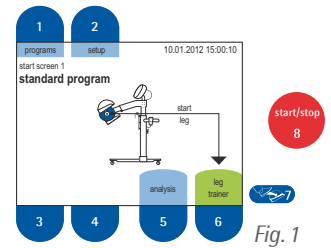
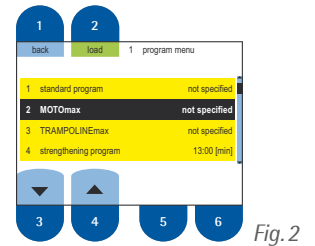
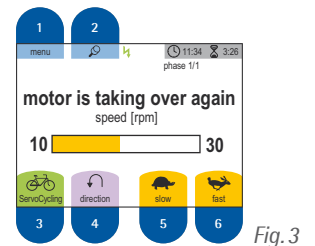
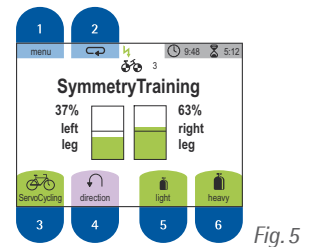

Fig. 1
Fig. 2
Fig. 3
Fig. 5
At first, the start screen (fig. 1) comes up. Start your training by pushing the button ⑥ "leg trainer". The foot shells will start moving automatically. In order to set a training time push the button ① "menu" (fig. 3–7). Push the buttons ③/④ (▼/▲) to select line 2 "duration" and use the buttons ⑤/⑥ (←/→) to set the desired training time (not shown). To return to your training screen push button ① "back".
6b Select and initialize a preset TherapyProgram: From the start screen, (fig. 1) push button ① "programs". Once you have accessed this menu, (fig. 2) use buttons ③/④ (▼/▲) to mark the desired program and push button ② to "load" it. You will be transferred automatically to the start screen (fig. 1), where your selected program will be indicated. Start your training by pushing the button ⑥ "leg trainer".
7 Motor-assisted (passive) movement/change of direction: By pushing button ⑤ "slow" (🐢) or button ⑥ "fast" (🐘) (fig. 3) you can increase or decrease (between 0–60 r.p.m.) the passive speed. The button ④ "direction" (↺) allows for changing the cycling direction from forward to backward and vice versa.
8 Active cycling or motor-assisted cycling (ServoCycling): You are free to engage in active cycling with your own muscle input at any given time during the training session. The transfer to active training is made easier with the ServoCycling feature. Just push button ③ to start "ServoCycling" (🚲) (fig. 3 and fig. 4). A bicycle and the note "you are cycling yourself" appears on the display (fig. 4). With the buttons ⑤ "light" (👤) and ⑥ "heavy" (👤) (fig. 4) you can shift gears from 0 to 20 according to your muscle strength.
9 Relaxing phases: Once the muscles fatigue the user should stop training actively. The MOTomed recognizes this and the motor takes over again to continue moving your legs passively (fig. 3). After you have relaxed you can try again to cycle yourself – the MOTomed will take up your impulse. A bicycle and the note "you are cycling yourself" appears on the display (fig. 4).
10 SymmetryTraining: The "SymmetryTraining" (fig. 5) function appears in the "you are cycling yourself" mode. The two bar graphs show the activity of your legs in two bars with respective percentage. Try to concentrate on cycling equally with both legs. By pushing button ② (🔄) (fig. 3 and fig. 4) you can freeze the information displayed. Push button ② (↺) (fig. 5) again to receive alternating information.
13 End of training/analysis: Push twice the red "start/stop"-button ⑧ (fig. 1). After 10 seconds the training analysis will pop up automatically.